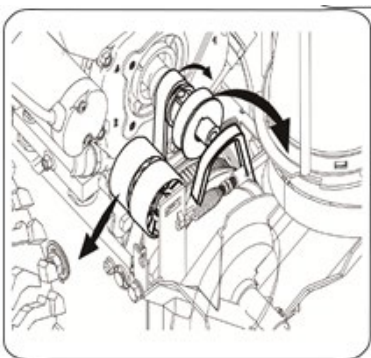

Fig.29
- c. Lift the belt off the motor pulley. See figure 29.